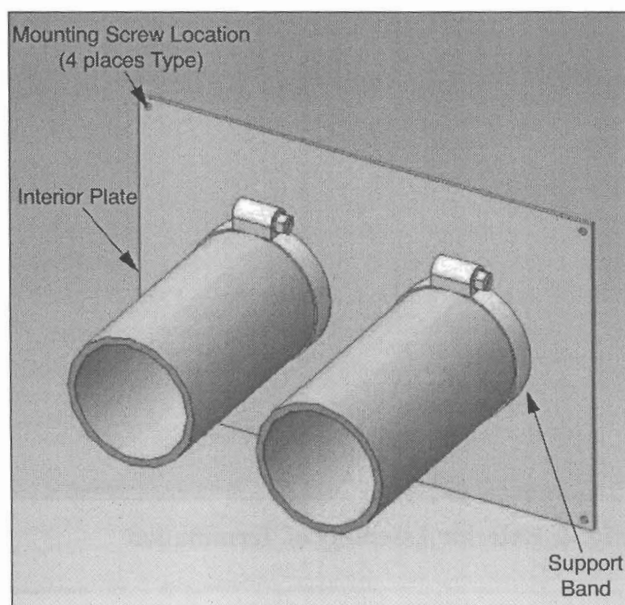
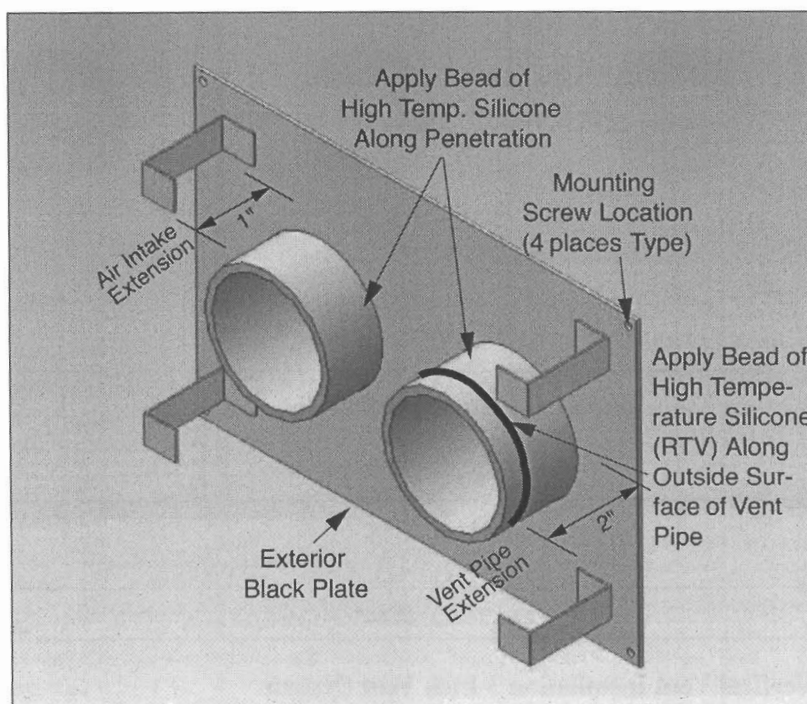

Fig. 2: Mounting of Interior Plate
Fig. 3: Mounting of Exterior Back Plate
the support bands on the interior plate to support the piping. See Figure 2 and Figure 3.
6. Mount the exterior back plate over the protruding vent and air intake piping. Use the supplied #10 x 1" mounting screws to secure the plate to the exterior face of the building as shown in Figure 3.
7. Apply a bead of high temp silicone (RTV) around the vent and air intake piping where it penetrates through the exterior back plate as shown in Figure 3.
8. Apply a generous bead of high temperature silicone (RTV) along the outside circumference of the vent pipe as shown in Figure 3.